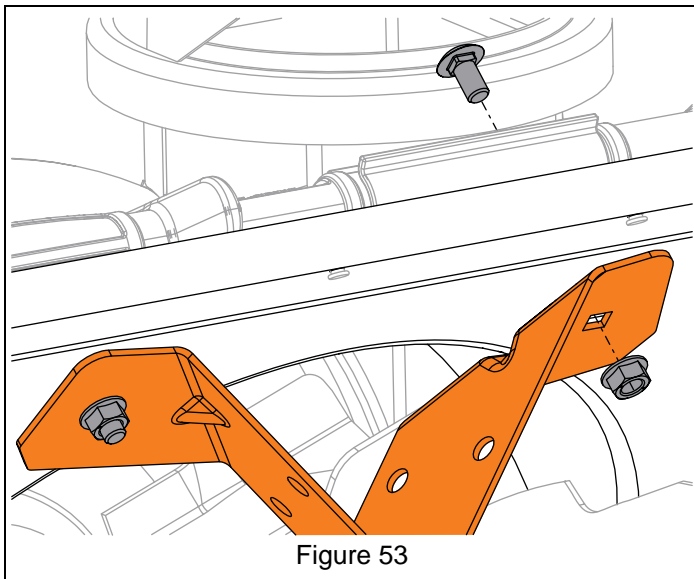

Figure 53
6. Secure support brackets to auger housing with two round head square neck bolts and two top locking flange nuts. See Figure 53.